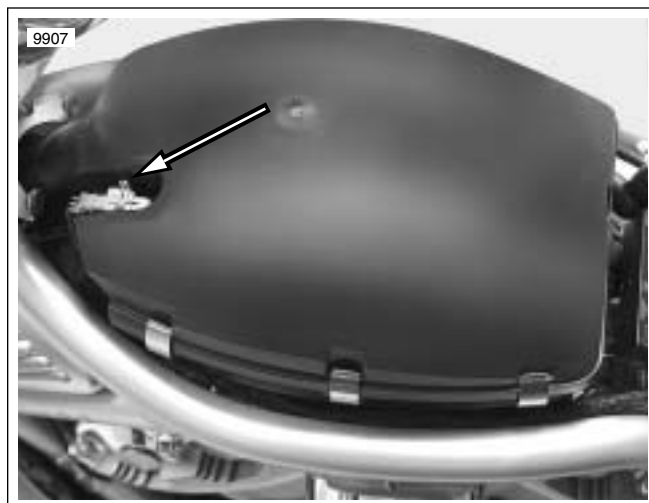

Figure 4-29. Intake Air Temperature Sensor Location (typical)
3. See Figure 4-29. Remove IAT sensor connector [89B].